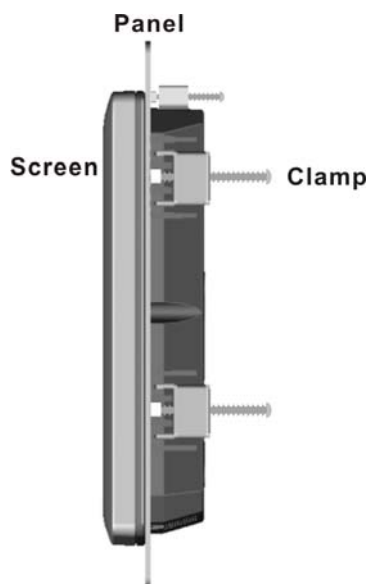

Figure 3-23: Tighten the Panel Mounting Clamp Screws
- Step 5:** Tighten the screws that pass through the panel mounting clamps until the plastic caps at the front of all the screws are firmly secured to the panel (**Figure 3-23**).